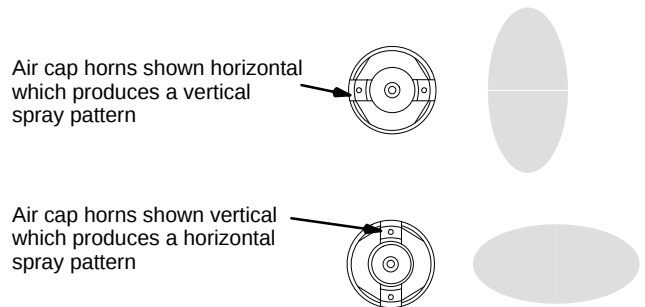

Fig. 3
3. Fan pattern adjusting valve (E).
4. Fluid adjusting valve (F). This valve is used in systems that do not have a fluid regulator. For this system, use the pressure pot regulator to adjust fluid flow. Turn the valve (F) out until full trigger travel is obtained.
6. Loosen the air cap retaining ring (G) and rotate the horns of the air cap to obtain the desired spray position. Tighten the retaining ring snugly, but do not overtighten. See Fig. 3 for how to obtain a vertical or horizontal spray pattern.